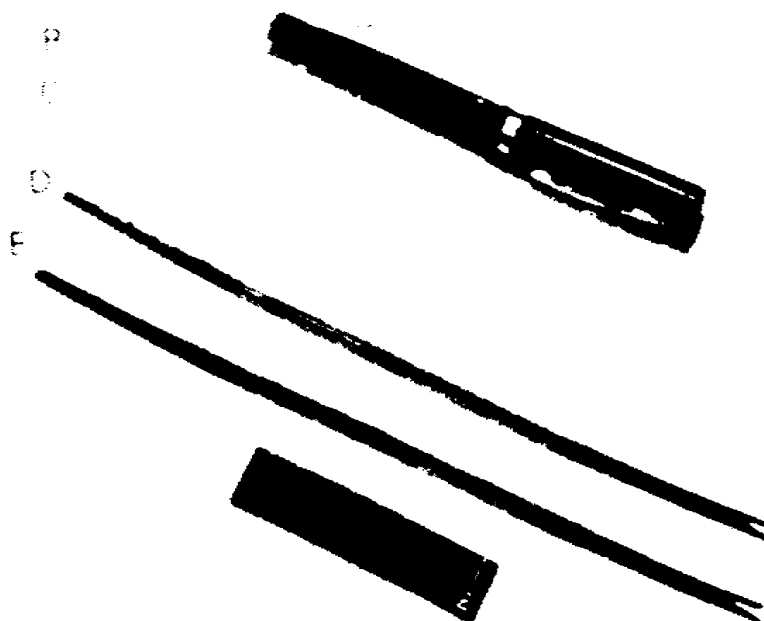
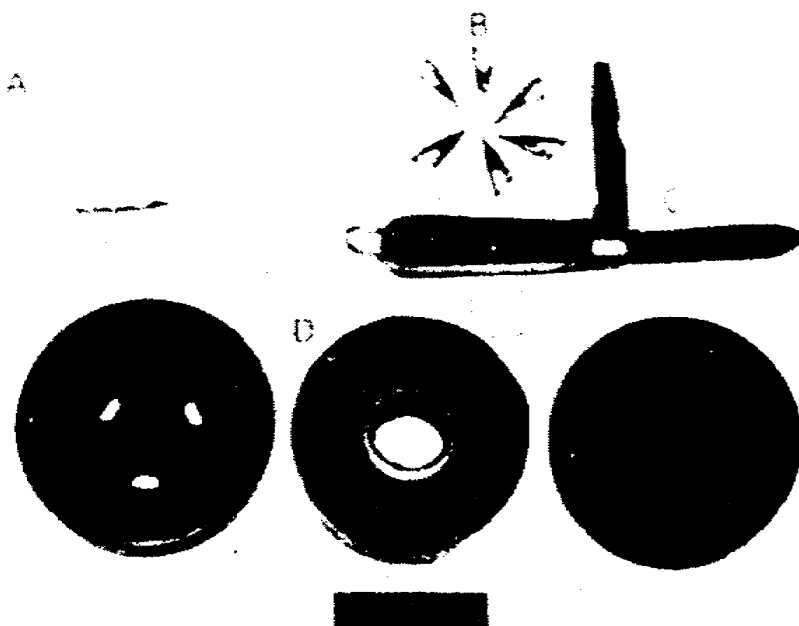

Figure 13. Special-purpose tools: burnisher, alignment tools, and orangewood sticks.
Figure 14. Miscellaneous items in TK-105/G.
- (1) A tube extractor enables you to remove electron tubes from their sockets. It is a great help in pulling out tubes that are still hot or that are in hard-to-get-at locations where you cannot grasp and pull out the tubes with your fingers. The dark portion of the extractor is a rather soft, nonslippery plastic coating to allow a good grip on the glass sides of a tube.
- (2) The pin straightener consists of a die on either end. One end is for seven-pin tubes, the other for nine-pin tubes. You operate the tool by simply pushing the pins portion of the tube into the appropriate die which resembles a tube socket. This action straightens any bent pins the tube may have. You then remove the tube from the die of the straightener, and put the tube back in its regular socket or return it to wherever a supply of good tubes may be kept. Most tube straighteners are of aluminum carefully machined as a precision tool.
f. Other Special-Purpose Tools (fig. 13).
- (2) Alignment tool. The two alignment tools furnished in a TK-105/G appear in figure 13 as items B and C. An alignment tool is made of fiber, plastic, or any other suitable material that is a nonconductor of electricity, and is thus immune to electromagnetic effect or influence. It is used in adjusting the components of a circuit that might be affected by the presence of metal. NEVER use your alignment tool as a screwdriver, and NEVER use a screwdriver where an alignment tool is required.
- (3) Orangewood stick. Two identical orangewood sticks are issued in a TK-105/G (items D and E). Although intended for separating hot or live wires while checking out or working on a circuit, you will find a number of other practical uses for the orangewood stick. For instance, the stick is useful to hold aside parts and wires that get in the way when soldering in tight quarters. It can help you hold down parts being soldered or unsoldered; it can pinch-hit as an alignment tool, a burnisher of contacts that are not too dirty, or a mechanical finger to pick up or position parts.
g. Miscellaneous (fig. 14).